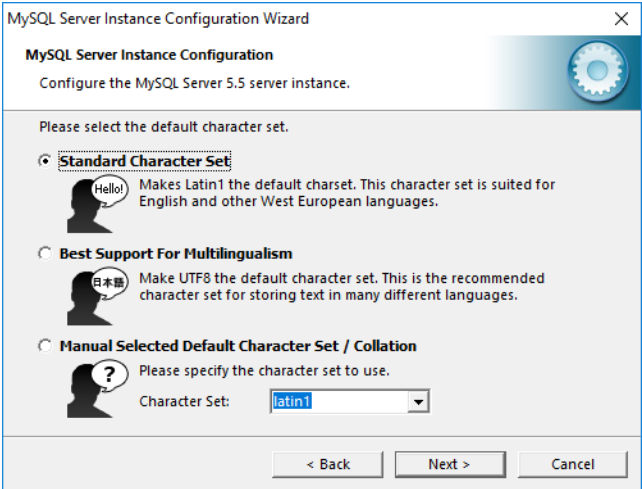

Figure A14
8. Select "Manual Selected Default Character Set / Collation" and select "latin1" from the drop down list. Click "Next". (Figure A14)